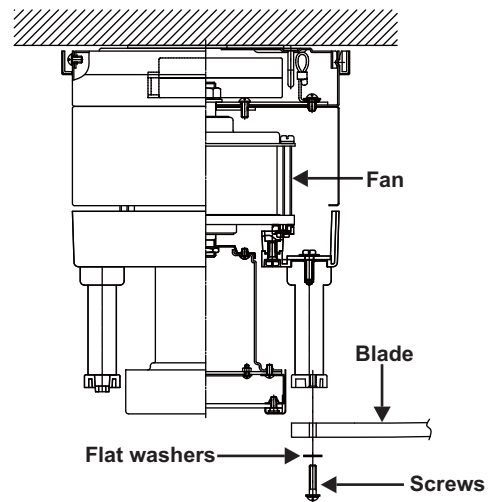

Figure 15
1. Attach the blade to the fan motor using the screws with lock washers and flat washers provided as shown in Figure 15. Repeat for the remaining blades.